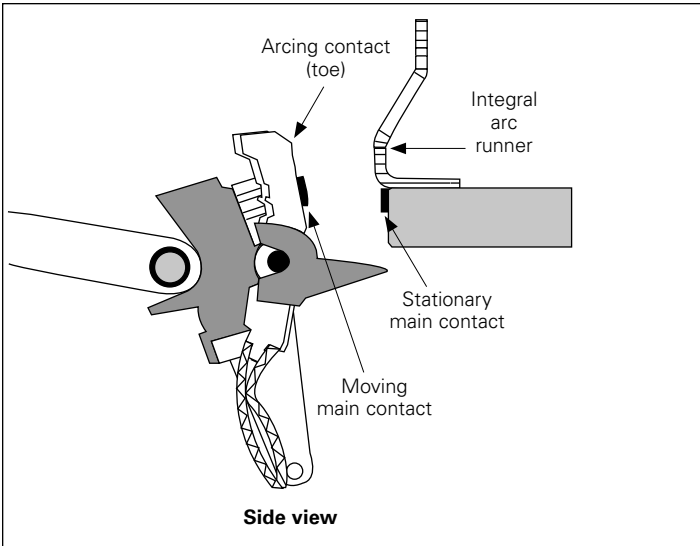

Figure 85. Contact inspection area with circuit breaker open
2. Use the contact wear indicator to inspect each contact. The contact wear indicator is the relative position of the individual contact fingers to a narrow, side-to-side ledge inside the arc chamber. The ledge is actually part of the arc chamber. When the circuit breaker is closed and the contacts are in good condition, the narrow ledge is covered by the back end of each of the contact fingers (**Figure 85**). If the back end of any of the contacts are below the ledge, the contact assembly should be replaced.